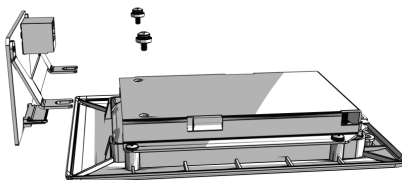

Figure 8: Attach Connector Board
11. Place the connector board into the iPod touch and secure to retainer with 2 screws. Connect RJ-45 Cable to connector. (See Figure 8).